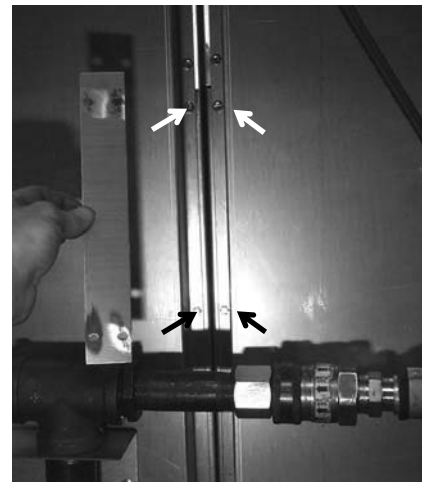

Figure 10. Install rear connecting plate.
11. Install the rear connecting plate (Figure 10). Remove four screws from the cabinet backs (Figure 10, arrows), install connecting plate and replace screws. Connection strips vary from system to system.